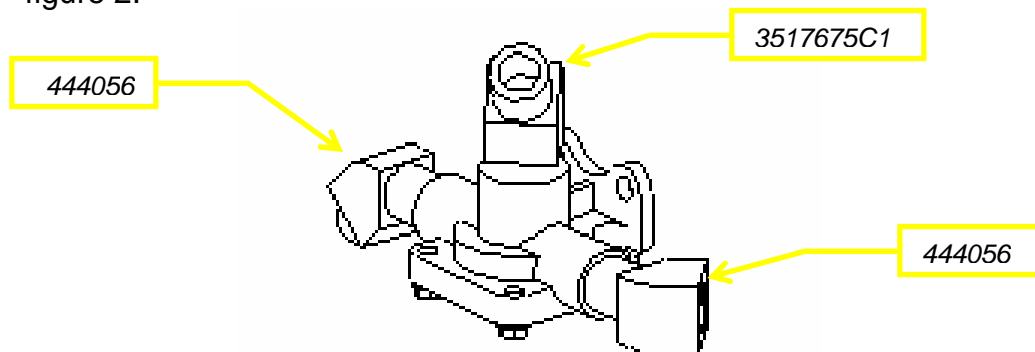

Figure 2
4. Install proper fittings into both new Quick Release Valves (QRV) as per figure 2.